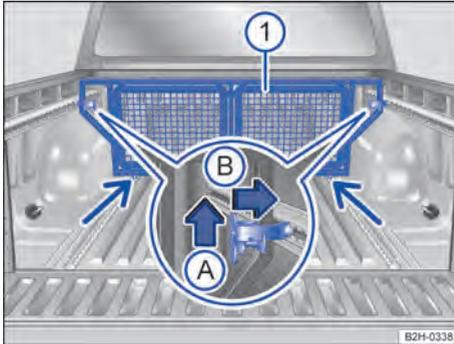

Fig. 144 On the load bed: Installing the load space divider.
1. Carefully place the load space divider → Fig. 144 ① in the desired installation position → ⚠.
3. Insert the load space divider into the lower fastening rings → Fig. 144 (thin arrows).
5. Pull each locking lever upwards → Fig. 144 (arrow A) and press it outwards as far as it will go (arrow B).